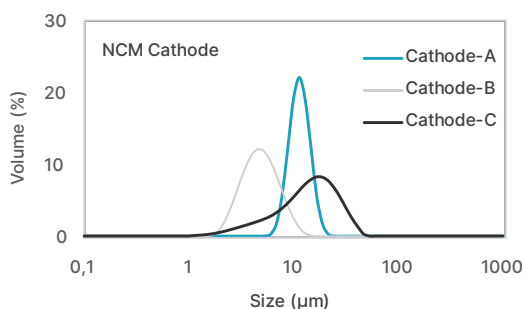
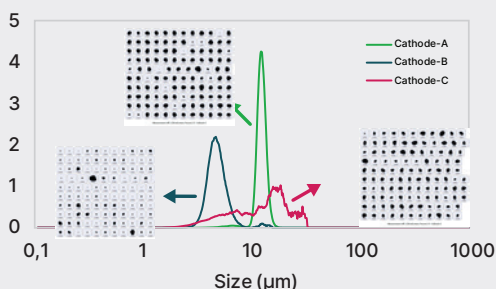
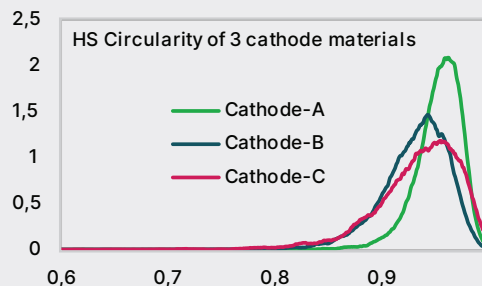

Figure 1 Particle size distribution of three batches of NCM811 cathode materials synthesized with different processing parameters.
Figure 3
Figure 4
Example Cathode Materials Circular Equivalent (CE) size distribution of three NCM cathode materials, as obtained from Morphologi 4 (Figure 3). These are the same samples as those measured with the Mastersizer 3000 in Figure 1. Circularity for these samples is compared in Figure 4. Circularity index 1 corresponds to perfect spheres and smaller values to larger deviation from circularity. A narrow distribution in circularity means uniform shape particles, whereas broad distribution represents large variance in particle shapes. Cathode A has circular particles, whereas B and C are irregularly shaped with large shape variations.